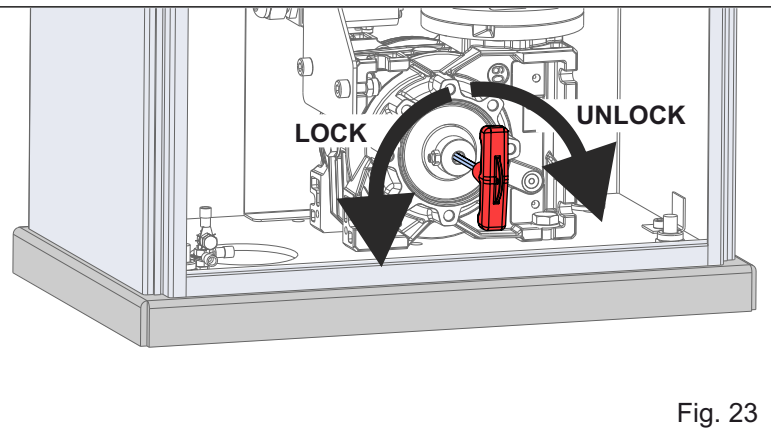

Fig. 23
- Insert the red release key (**provided**) and turn it clockwise until it stops, without forcing it - Fig. 23
- Turn the red release key anticlockwise until it stops, without forcing it - Fig. 23